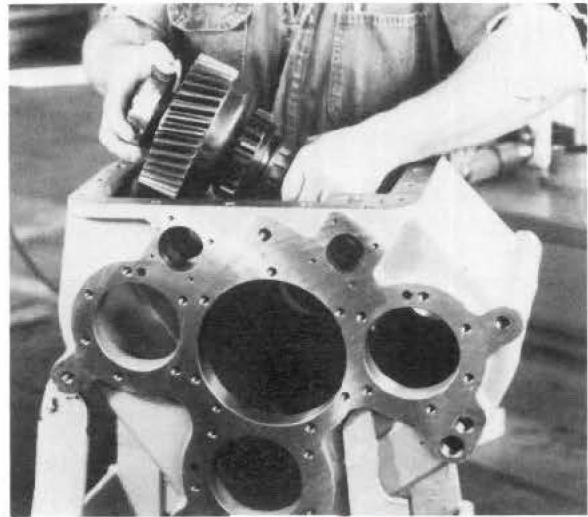

Fig. 7
3. The shaft and gear assembly may then be removed as shown in Fig. 7.